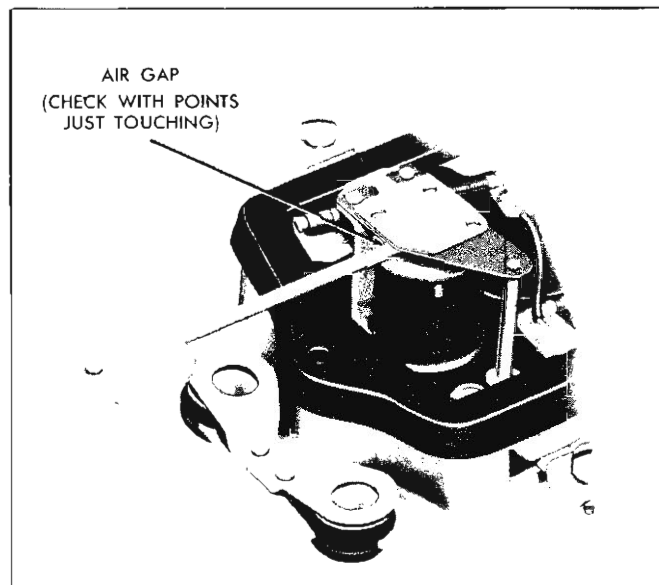

Fig. 37—Checking Field Relay Air Gap
**AIR GAP:** With the regulator removed from the vehicle, check the air gap with the points just touching as shown in Figure 37. If adjustment is necessary, carefully bend the flat contact support spring.